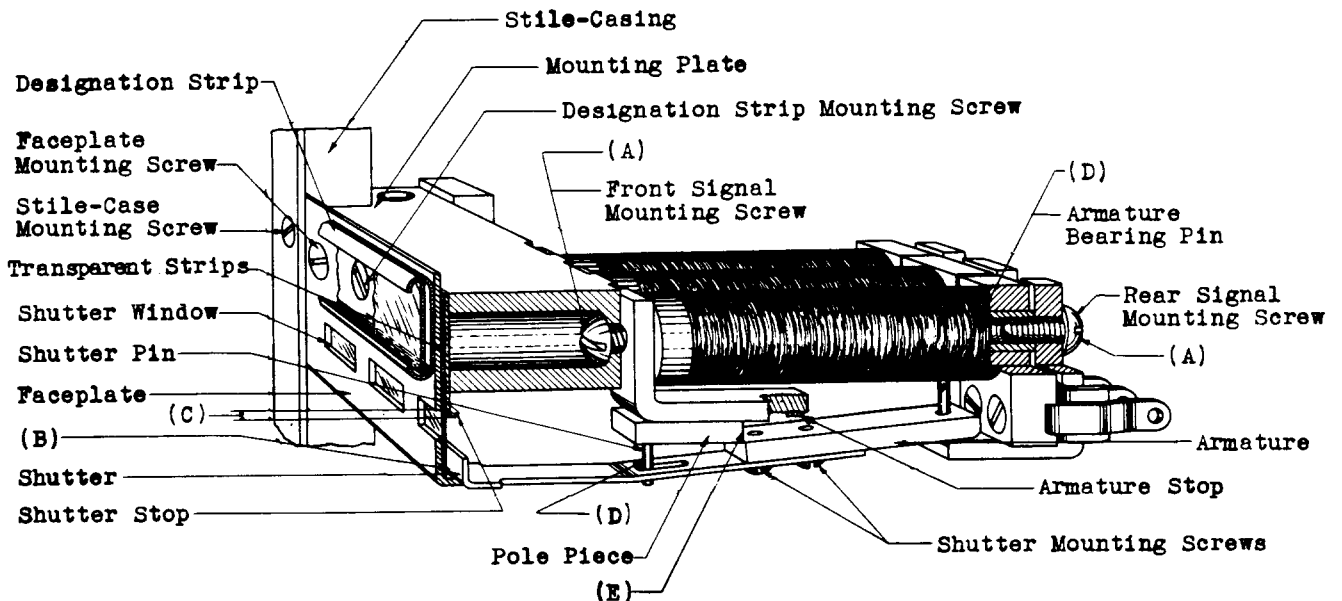

Fig. 1 - 42 Type Signals
- \*2.02 Mounting - Fig. 1 (A) - The signal shall be securely fastened to the mounting plate.
- \*2.03 Shutter Movement - Fig. 1 (B) - There shall be sufficient clearance between the face (front end) of the shutter and the inside surface of the transparent strip to allow the shutter to move freely. Gauge by eye.
- (b) Fig. 1 (C) - The shutter stop shall extend below the shutter windows approximately the same distance at both ends of the strip.
- \*2.06 Armature Movement - Fig. 1 (D) - The armature shall move freely on the shutter pin and armature bearing pin. Gauge by feel and by eye.
- \*2.07 Clearance Between Armature and Pole Piece - Fig. 1 (E) - With the play of the shutter assembly taken up toward the rear of the signal there shall be a perceptible clearance (min. .005") between the end of the armature and the pole piece.